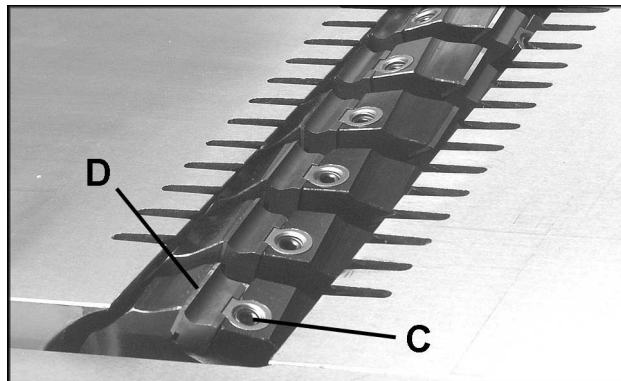

FIGURE 13
1. Loosen the gib screw (C-Fig. 13) and remove the knife (D-Fig. 13) from the slot.
2. Flip the knife 180 degrees and re-insert it, then tighten the gib screw (C-Fig. 13). To ensure optimal cutting, all knives in the cutterhead should be flipped at the same time.